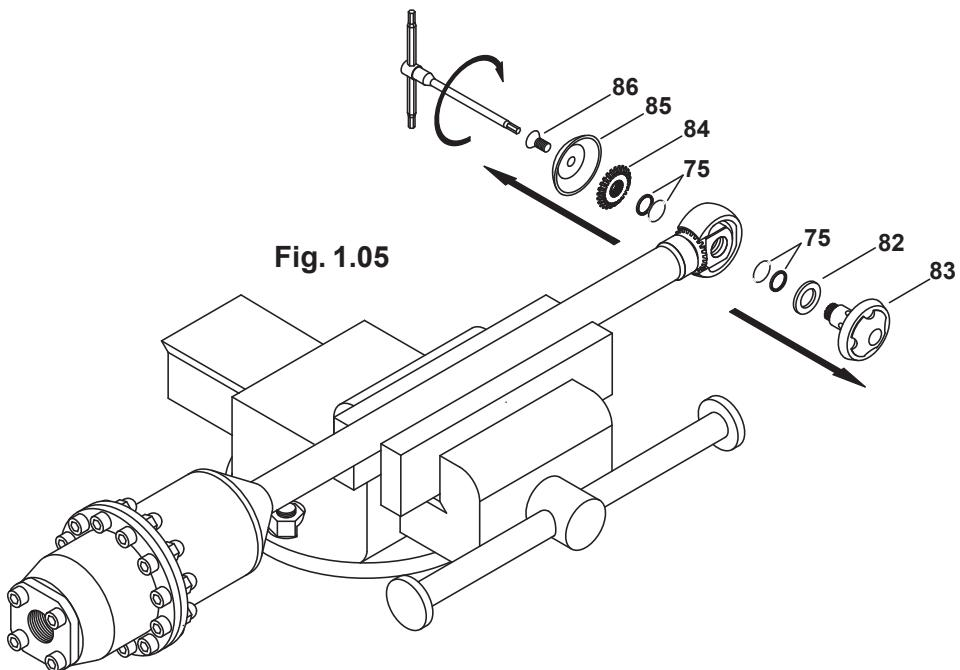

Fig. 1.05
1.4.02) Remove the protection pos. 85, the crown pos. 84, and slide out the nozzle holder pin pos. 83 with the washer pos. 82 (Fig. 1.05).